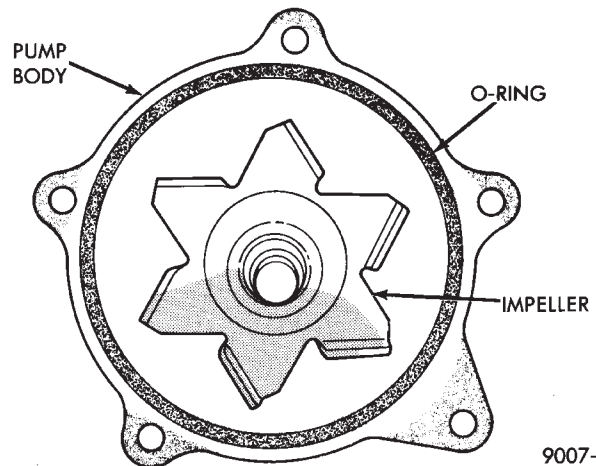

Fig. 8 Water Pump Body
- (1) Install new O-ring in O-ring groove (Fig. 8).
- (2) Install pump to chain case cover. Torque screws to 12 N•m (105 in. lbs.).
- (3) Rotate pump by hand to check for freedom of movement.
- (4) Position pulley on pump. Install screws and torque to 30 N•m (250 in. lbs.).
- (5) Install drive belt. See Accessory Drive Belts this group.
- (6) Install right front lower fender shield.
- (7) Refill Cooling System. See Refilling Cooling System in this section.